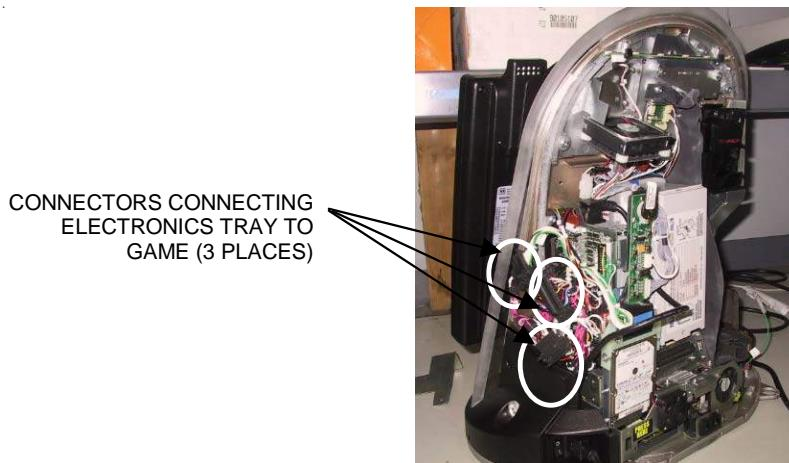
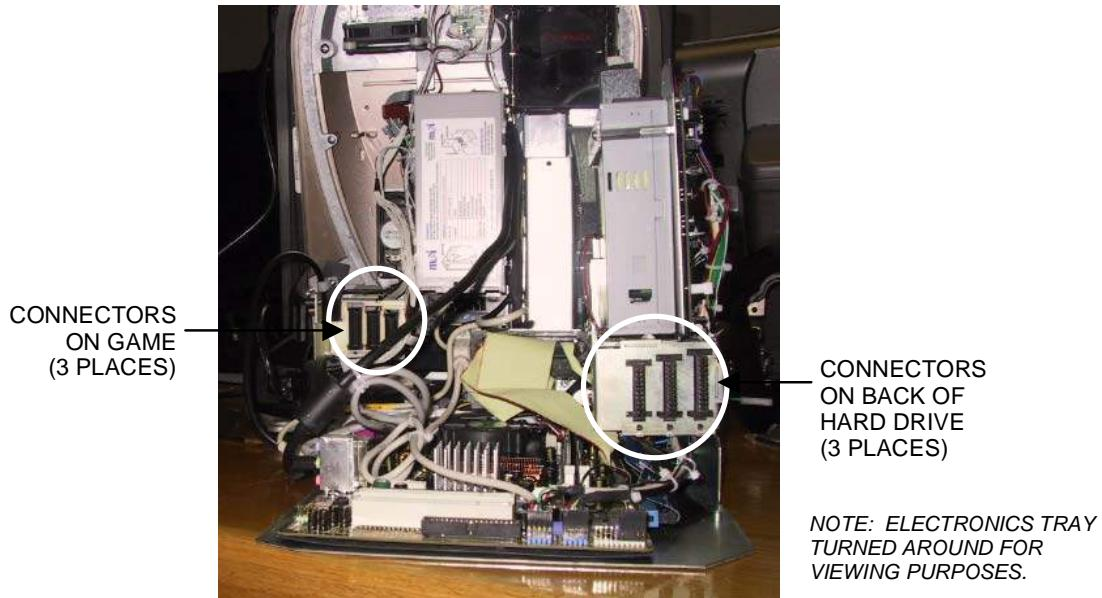

FIGURE 5 - REAR VIEW OF GAME
FIGURE 7 - CONNECTORS ON BACK OF HARD DRIVE BRACKET AND WALL OF GAME
7. If applicable, disconnect the three black connectors (10-, 11- and 12-pin) connecting the electronics tray to the game in order to slide the tray out further (See Figure 5). If your game does not have these connectors, the harness is long enough to remove the tray.
3. Restore the hard drive/power supply tower to its upright position. Slide the electronics tray back into place, making sure that the connectors on the back of the hard drive bracket click into the connectors on the wall of the game, if applicable (see Figure 7). If you disconnected three connectors from the electronics tray to the game (see Figure 5), reconnect them. Secure the tray by screwing in the thumbscrew. See Figure 4.